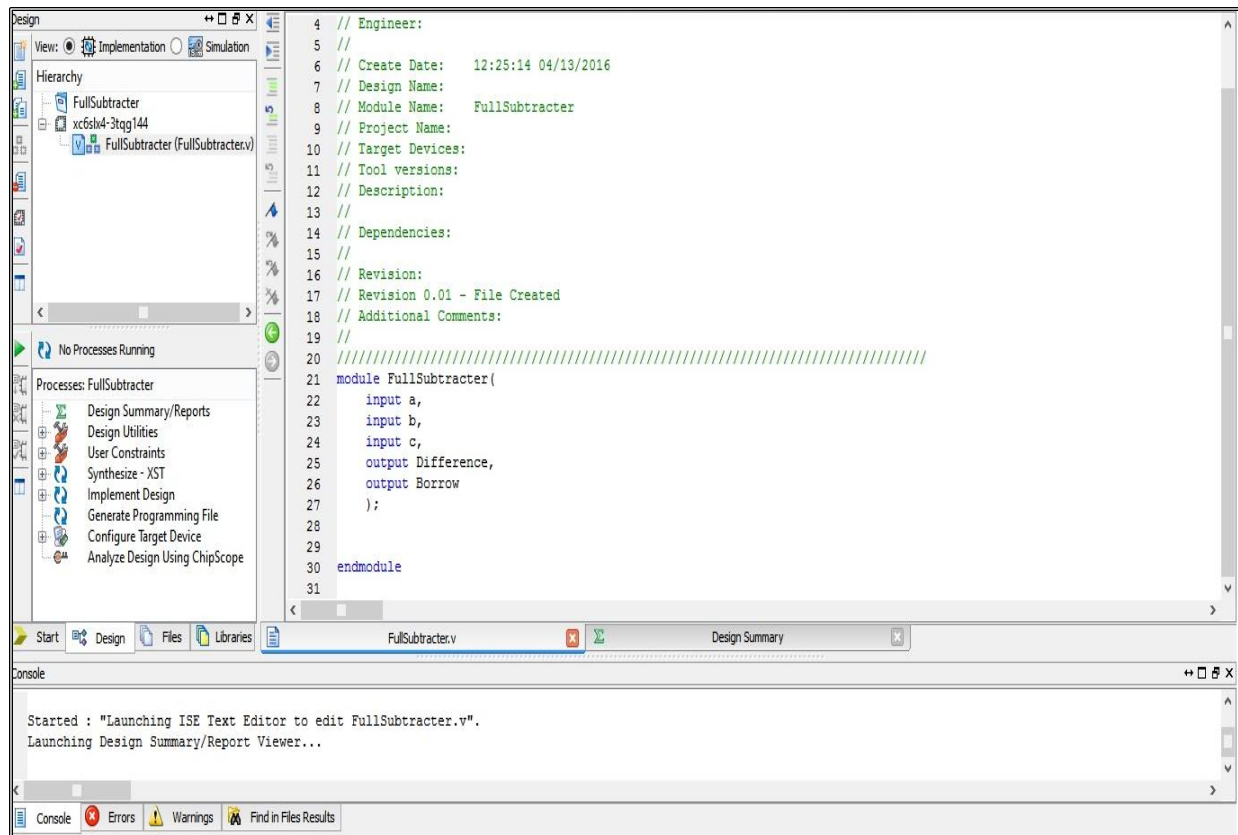

Fig 4.5: Fullsubtractor Module structure
8. In the Xilinx ISE interface you can see that the new source file “FullSubtractor.v” has been added to the project (Hierarchy window). In the ISE Text Editor, the ports are already declared in the FullSubtractor HDL file, and some of the basic file structure is already in place (Fig 4.5).